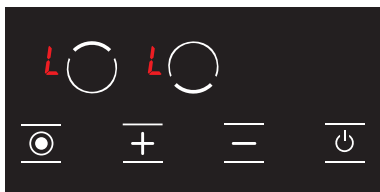

Figure 20
- The **L** icon is displayed on all displays when the stove is on and the child lock is active. (see Fig. 20) The **L** and **H** icons are displayed alternatively if any hob is hot. You may turn the stove on or off with the **⏻** key only.